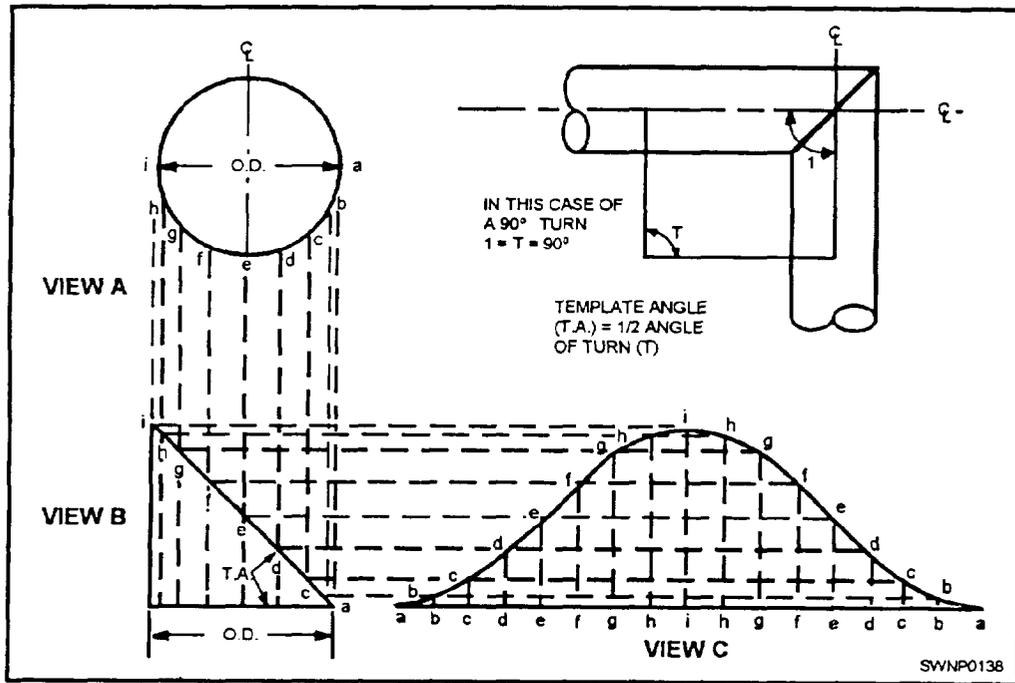

Figure 3-45.—Principles of template layout.
The development of a template is done in practice by dividing the circumference (in the end view) of the pipe into a specific number of equal sections. These sections are then projected onto the side view of the desired pipe section. The lengths of the various segments that make up the pipe wall may then be laid out, evenly spaced, on a base line. This line is, in effect, the unwrapped circumference (fig. 3-45). If the template developed in figure 3-45, view C, is wrapped around the pipe with the base line square with the pipe, the curved line, a-b-c-d-e-f, and so forth, will locate the position for cutting to make a 90-degree, two-piece turn. Draw a circle (fig. 3-45, view A) equal to the outside diameter of the pipe and divide half of it into equal sections. The more sections, the more accurate the final result will be. Perpendicular to the centerline and bisected by it, draw line AI equal to the O.D. (view B). To this line, construct the template angle (TA) equal to one half of the angle of turn, or, in this case, 45 degrees. Draw lines parallel to the centerline from points a, b, c, and so forth, on the circle and mark the points where these lines intersect line a-i with corresponding letters. As an extension of AI but a little distance from it, draw a straight line equal to the pipe circumference or that of the circle in view A. This line (view C) should then be divided into twice as many equal spaces as the semicircle, a-b-c, and so forth, and lettered as shown. Perpendiculars should then be erected from these points. Their intersections with lines drawn from the points on a-i in view B, parallel to the base line in view C, determine the curve of the template.